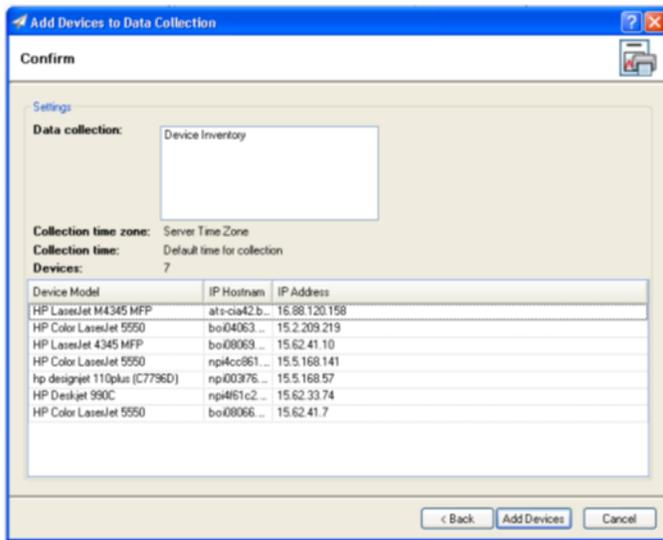

Figure 9: Confirm page
6. Click **Next**. The **Confirm** page opens (Figure 9).